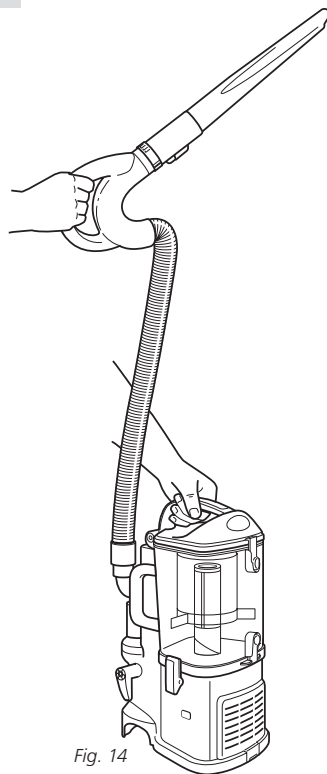

Fig. 14
- 4 Press the On/Off switch to the "I" position to turn the vacuum on for above-floor cleaning and hold the handle in one hand while you carry the detachable canister around the house with the other hand. (Fig. 14)